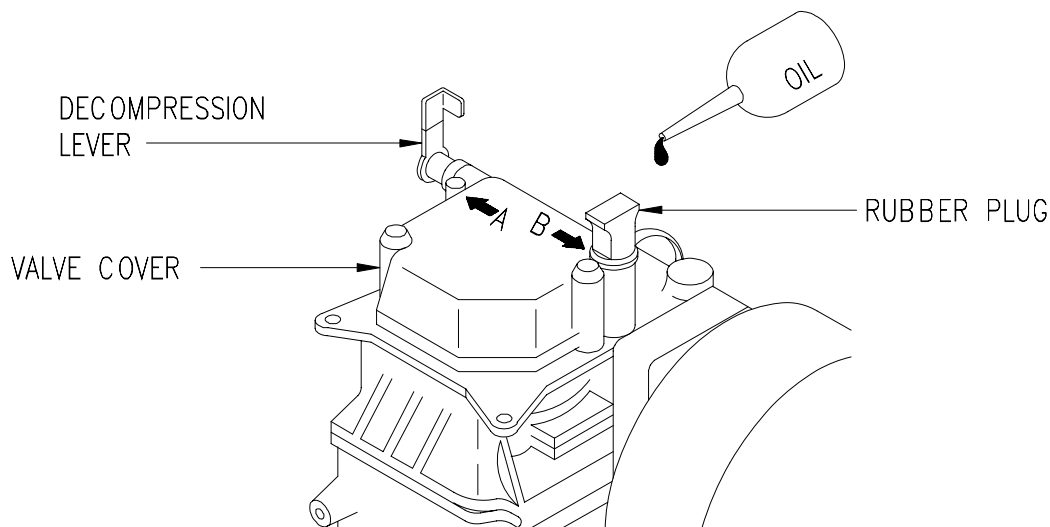

Figure 4-65. Adding Oil - Cylinder Head Plunger
- (1) If the engine is not warm, run it for about three minutes and then stop.
- (2) Drain engine lube oil and fill with new oil.
- (3) Remove rubber cylinder head plunger (Figure 4-65) and add 2 ml ($\frac{1}{4}$ to $\frac{1}{2}$ teaspoon) of clean engine oil, (Item 14, Appendix E). Install rubber plunger.
- (4) Push decompression lever down and hold it while you pull recoil starter two or three times. DO NOT start engine.
- (5) Pull decompression lever up. Pull recoil starter slowly. Stop when it feels tight. This closes intake and exhaust valves and helps prevent rust from forming.